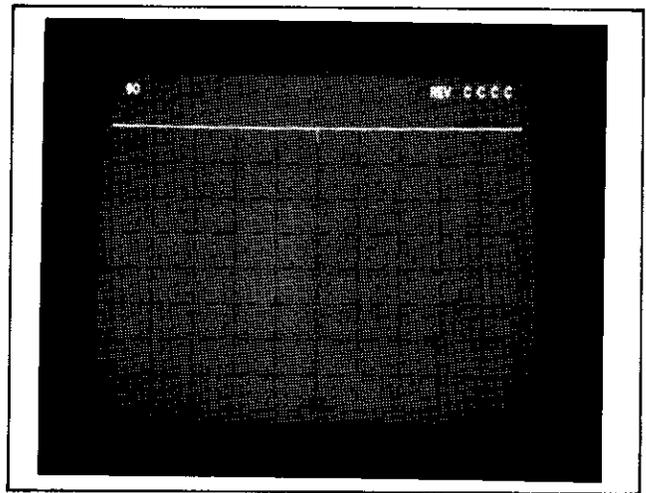

Figure 3. Display Line Adjustment
2. Press and hold in the GRAT while pressing the CLEAR/RESET to activate the Display Adjust line at top of screen as shown in Figure 3.